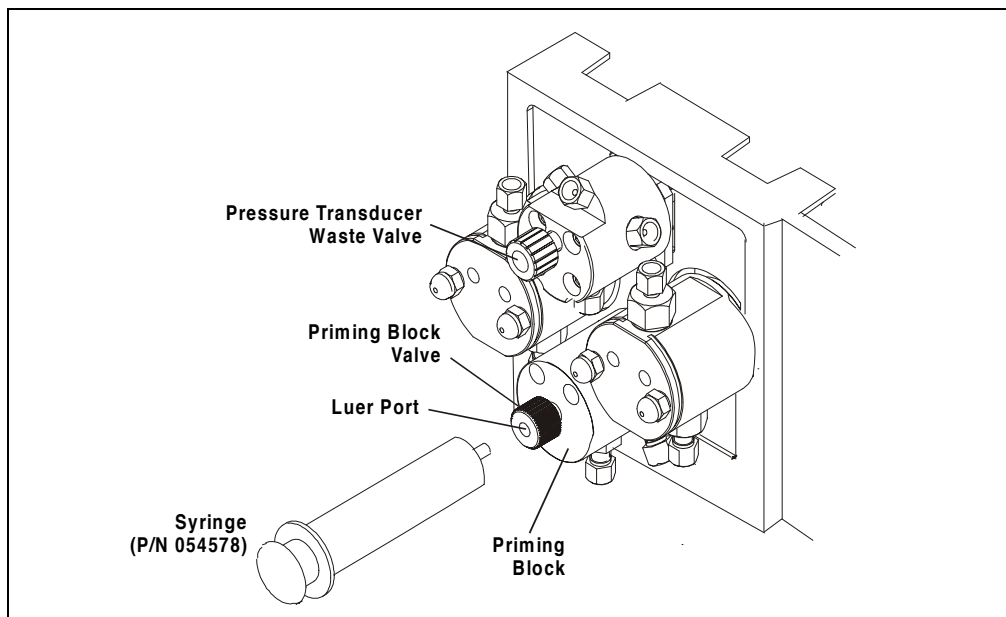

Figure B-5. Priming the Pump
3. Connect a 10 mL syringe (P/N 054578) to the luer port in the priming block (see Figure B-5).
9. When the manifold has been primed with each eluent, turn the priming block valve counterclockwise until closed (see Figure B-5). **Do not overtighten.**
1. Connect a 10 mL syringe (P/N 054578) filled with isopropyl alcohol to the luer port in the priming block valve (see Figure B-5).
2. Open the pressure transducer waste valve (see Figure B-5) by turning the knob counterclockwise about two turns.
3. Turn the priming block valve counterclockwise about two turns (see Figure B-5).